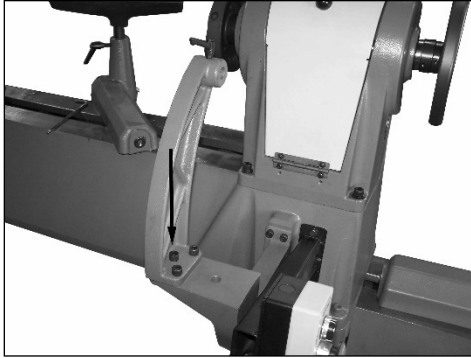

Figure 10
5. Mount the headstock side comparator/guard bracket on top of the support as shown in Figure 10. Use the supplied 6mm Allen head bolts.